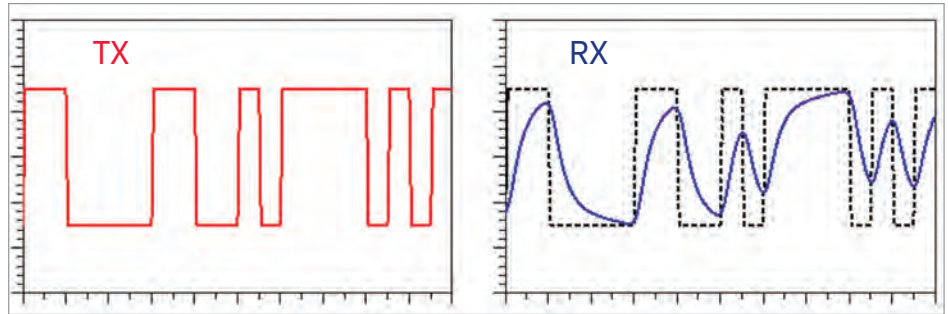
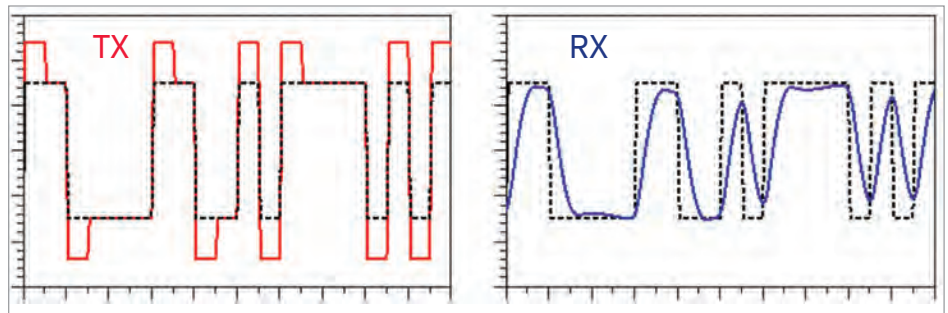

Figure 8. High frequency loss results in signal deterioration at RX.
Figure 9. High frequency compensation with pre-emphasis.
When a high speed digital signal travels through a lossy channel, the signal edges deteriorate with the loss of high frequency signal components as shown in the right diagram of Figure 8. It results in inter-symbol-interference (ISI) and a closing eye. One way to mitigate high frequency loss is to use a pre-emphasis circuit in the transmitter (TX). A pre-emphasis circuit operates by boosting high frequency energy every time a transition occurs as shown in left diagram of Figure 9. It compensates high frequency loss of a signal at the receiver (RX) and improves signal quality as shown in the right diagram of Figure 9.